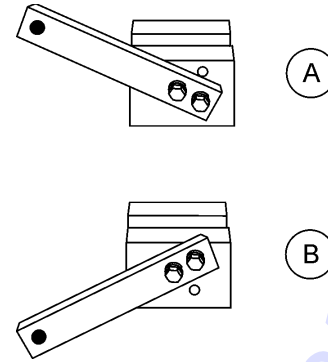

Figure 44. Trowel Arm Adjustment Setup
- Ensure the fixture arm is in the proper setting (up or down) for your trowel arm rotation as shown in Figure 44.
Arms with CLOCK-WISE blade rotation use the fixture arm in the UP position (Figure 44, A). Arms with COUNTER CLOCK-WISE blade rotation use the fixture with the fixture arm in the DOWN position (Figure 44, B).